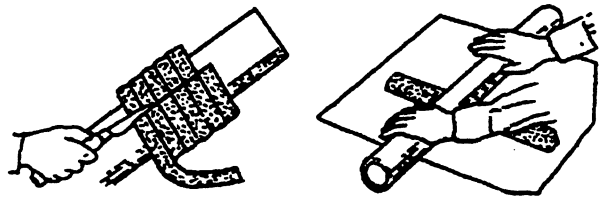

Figure F-3.
Step 1: Determine how much bulk packing will be required to fill the seal cavity and wrap it around a rod the same diameter as the shaft. With the packing wrapped around the rod, cut through each turn as shown in Figure F-3.